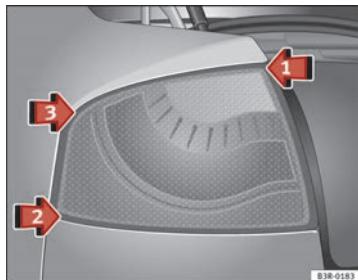
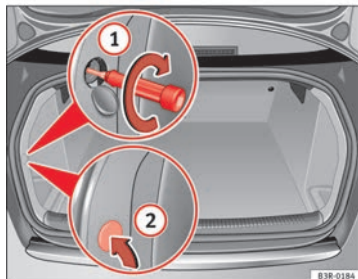

Fig. 211 Fitting the tail light unit
Fig. 212 Luggage compartment: Location of the bolt securing the tail light unit
- First place the tail light unit in ⇒ fig. 211 arrow ① in the housing.
- Gently press the tail light unit against the housing, first in position ② and then in position ③, until that the clips engage firmly in the rubber mountings.
- Apply gentle pressure to the upper part of the tail light unit and secure using the screwdriver, from the luggage compartment ⇒ fig. 212 ①.
- Replace the cover ② in the interior trim.